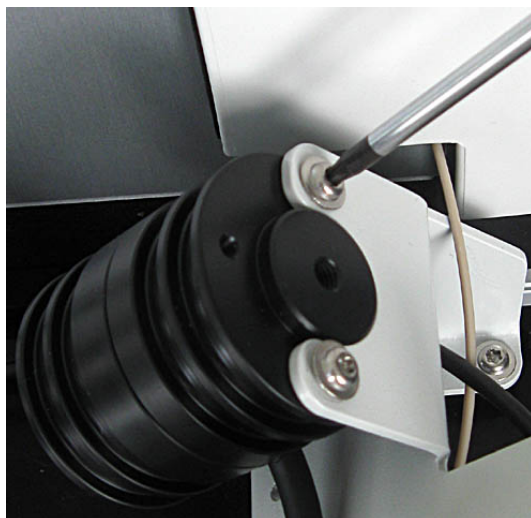

Fig. 22: Remove the conductivity flow cell
4. Loosen the two screws that attach the flow cell to the holder by using a screwdriver (TX10, included in accessories) and remove the flow cell from the holder (\rightarrow Fig. 22).